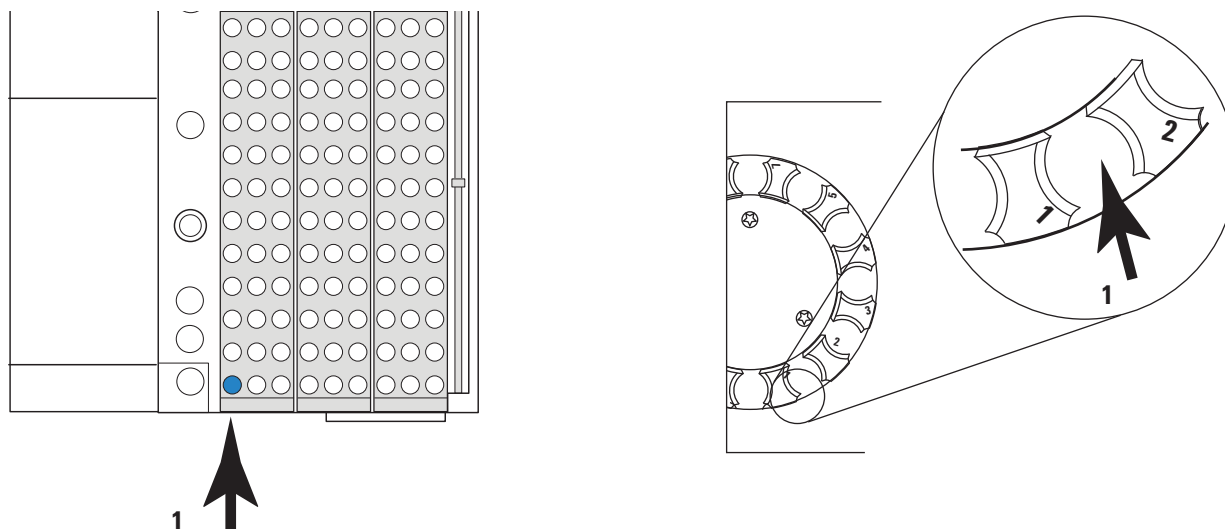

Figure 19 Tray vial position 1
- a Open the tray cover. A label to the left of each vial position denotes the number of that position. See Figure 19 and Figure 20.